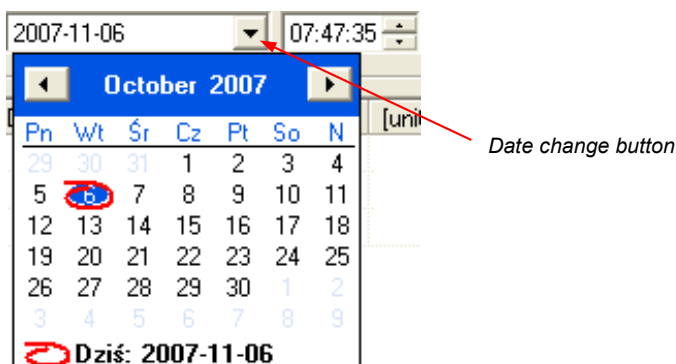

Figure 3.9. Changing the “From date”
- 1) In order to change “From date”, click onto the arrow on right side of the date (Figure 3.9). The calendar window will open: